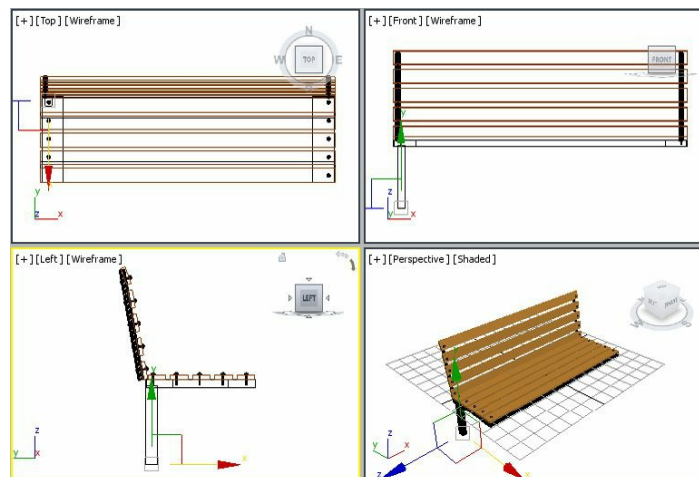

Figure 2-94 Alignment of leg001 in viewports
5. Choose the **Select and Move** tool and align *leg001* with *leg support001* in viewports, refer to Figure 2-94. You need to adjust the viewport to display all objects properly using the **Zoom** and **Pan View** tools.